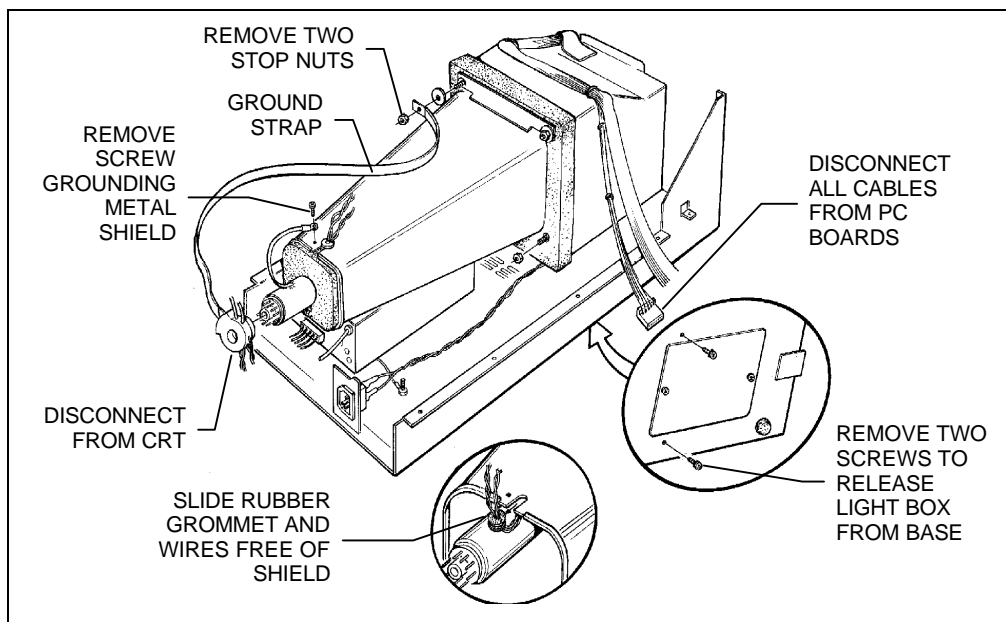
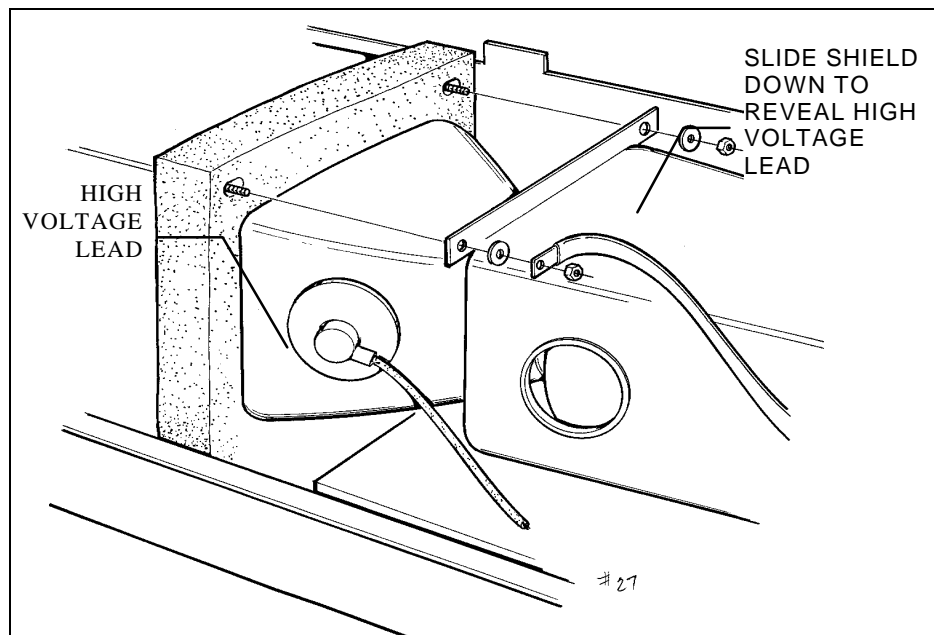

Figure 6-23. Releasing the Light box from the Base
Figure 6-24. Disconnecting the High Voltage Lead
9. Turn the unit on its side and identify and remove the two screws at either side of the access area (Figure 6-23). There are o-rings around the screws, inside the unit. When you remove the screws, these o-rings will fall loose, but, they can be retrieved when the light box is removed.
15. Pull the metal shield down the CRT far enough to reveal the rubber-enclosed high voltage lead going into the CRT (Figure 6-24). Pry off the rubber gasket to free the lead and pull the lead down through the opening at the end of the shield. (Figure 6-23)